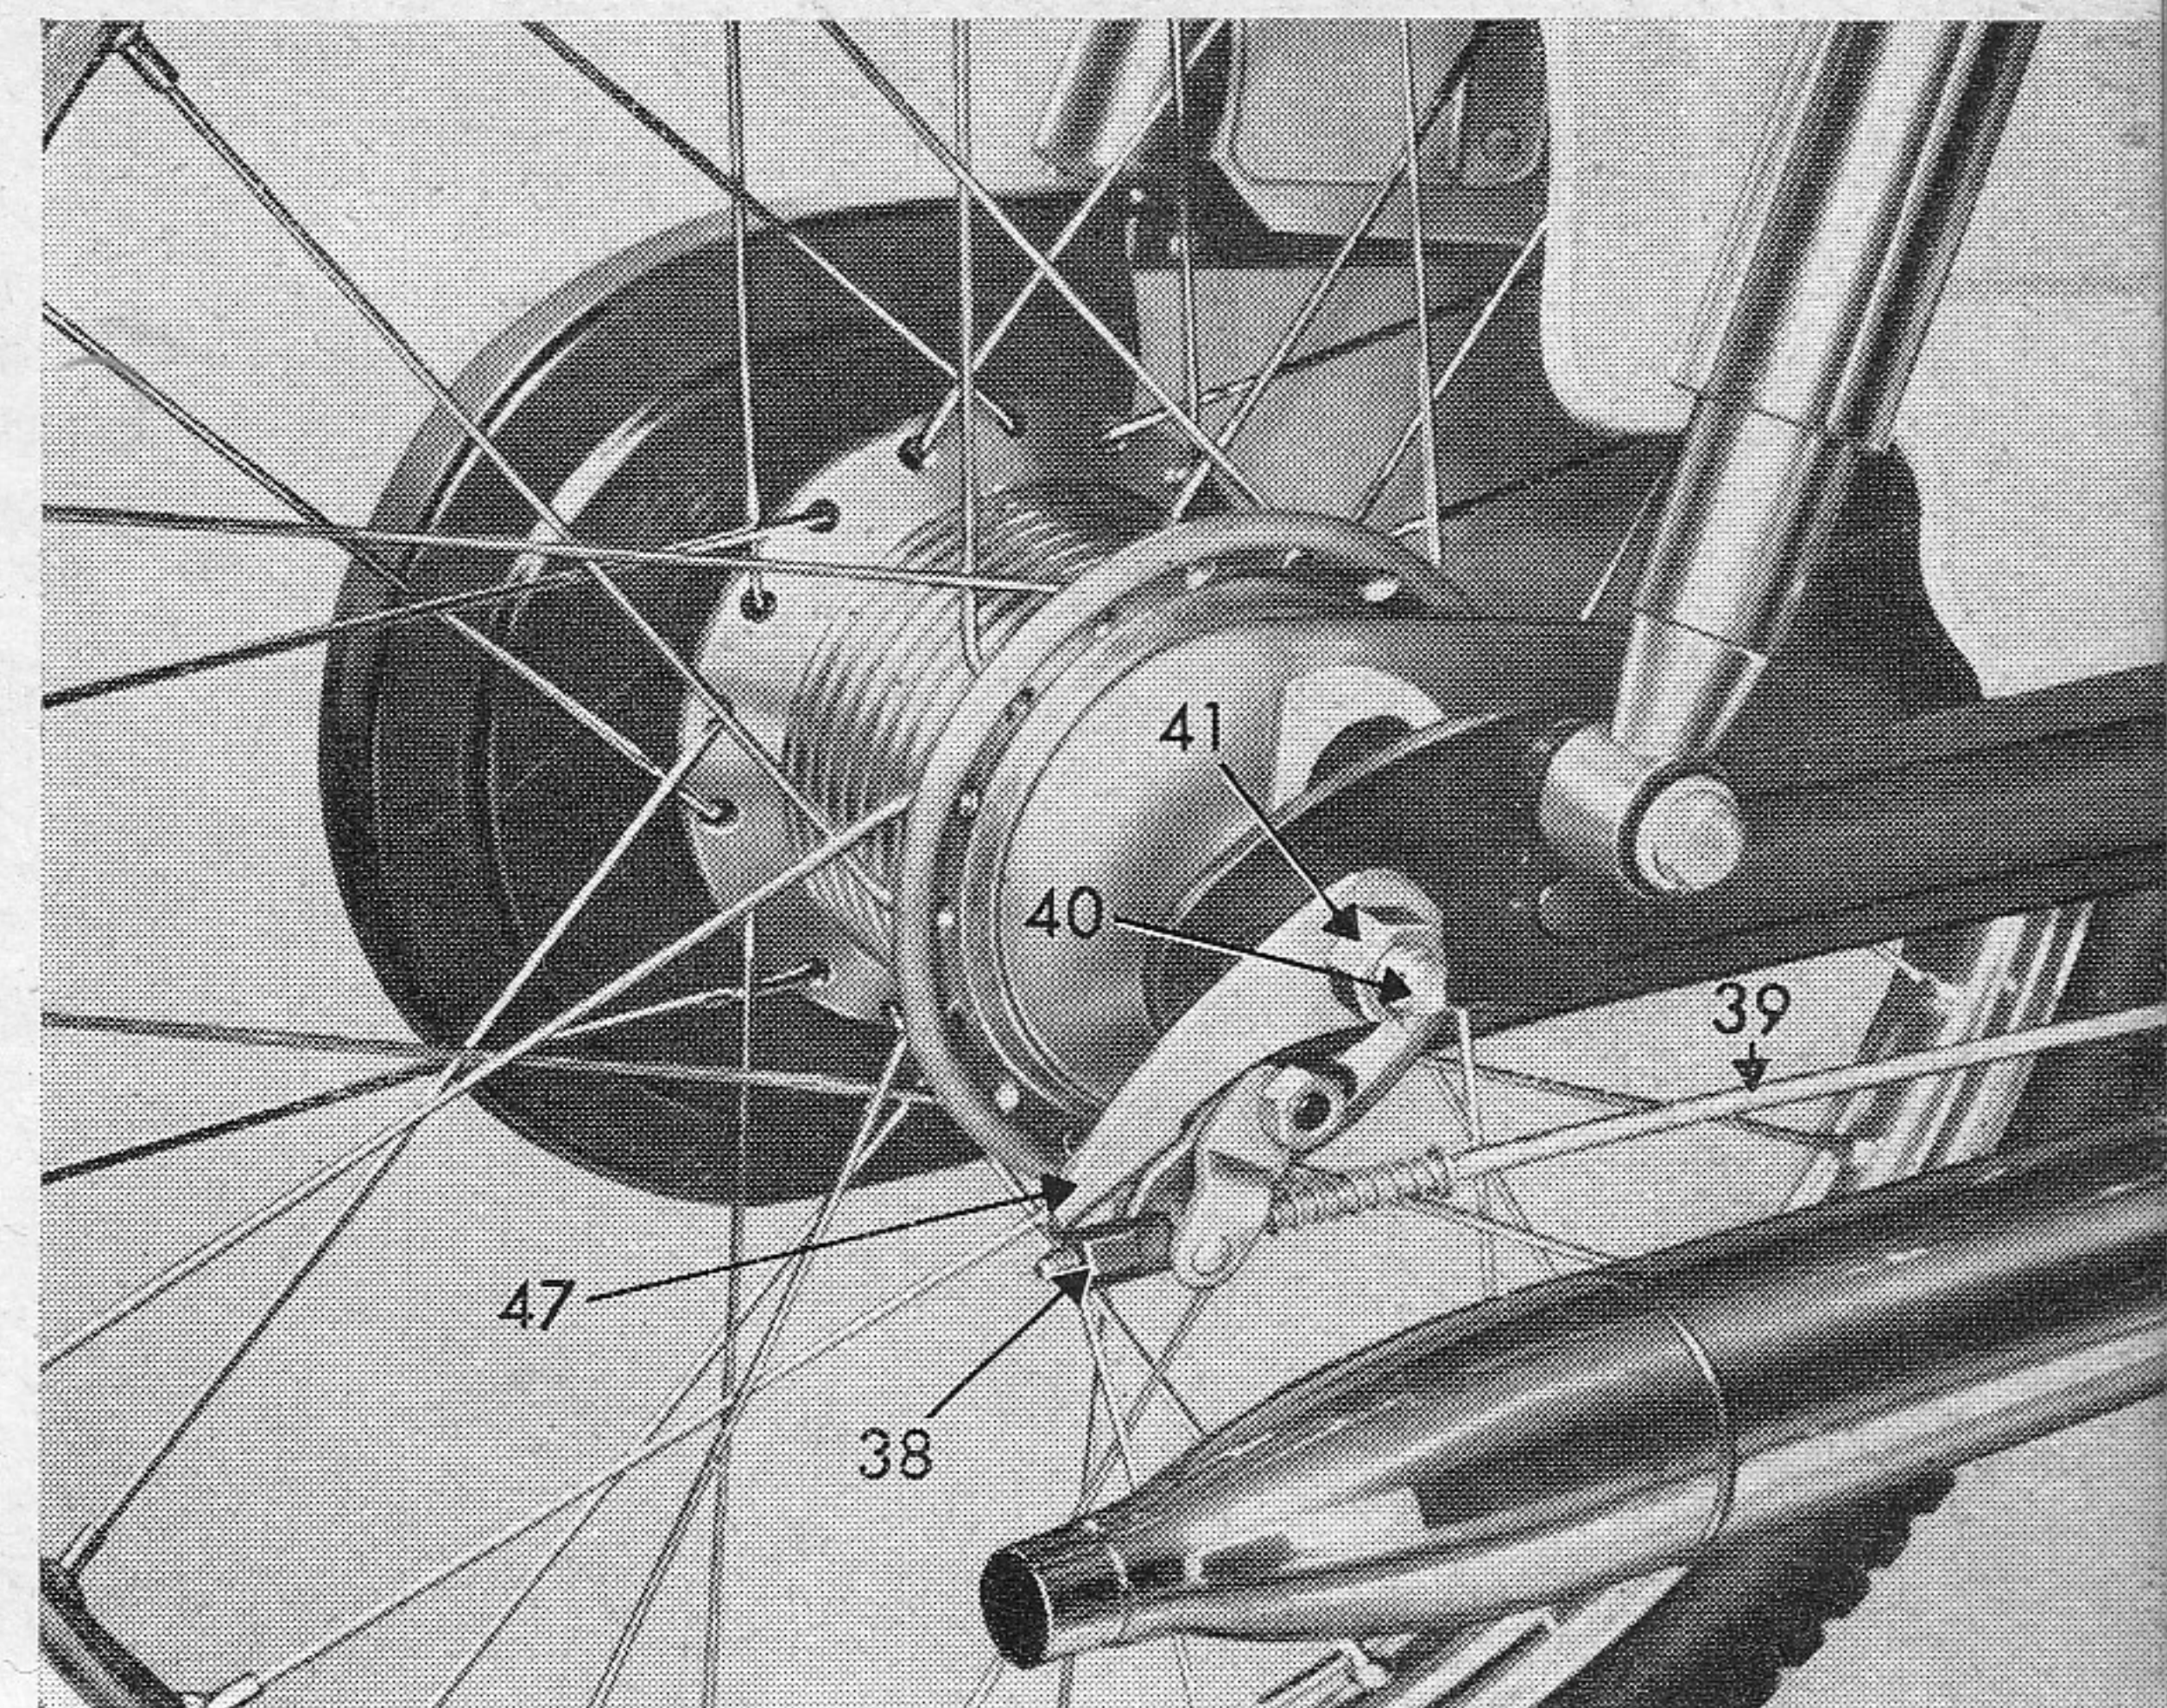

Fig. 7
h) **Rear Suspension** (fig. 7)
4. Rear Brake (fig. 7)
5. Front Suspension (fig. 7)